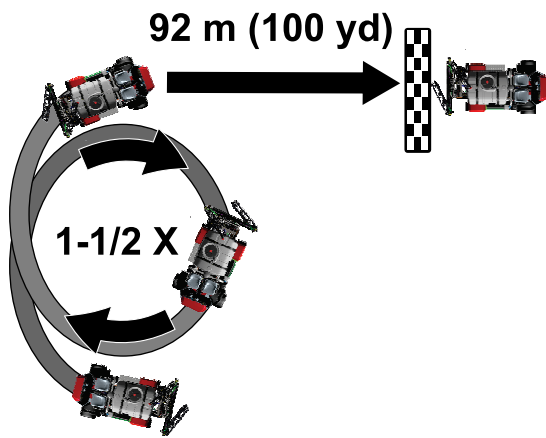

Figure 165
3. Drive the machine in a circle 1–1/2 revolutions (Figure 165).
5. Drive straight for 92 m (100 yd); refer to Figure 165.